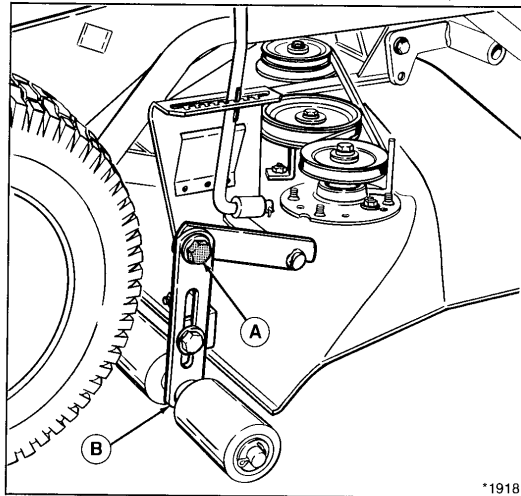

Figure 46. Side-to-Side Leveling
3. Turn the blades side-to-side and measure distance from outside tips of blades to ground. Measurement should be equal. For adjustment, refer to figure 46.
- a. Loosen the capscREW (A) on the right hand side of mower roller bracket (B).